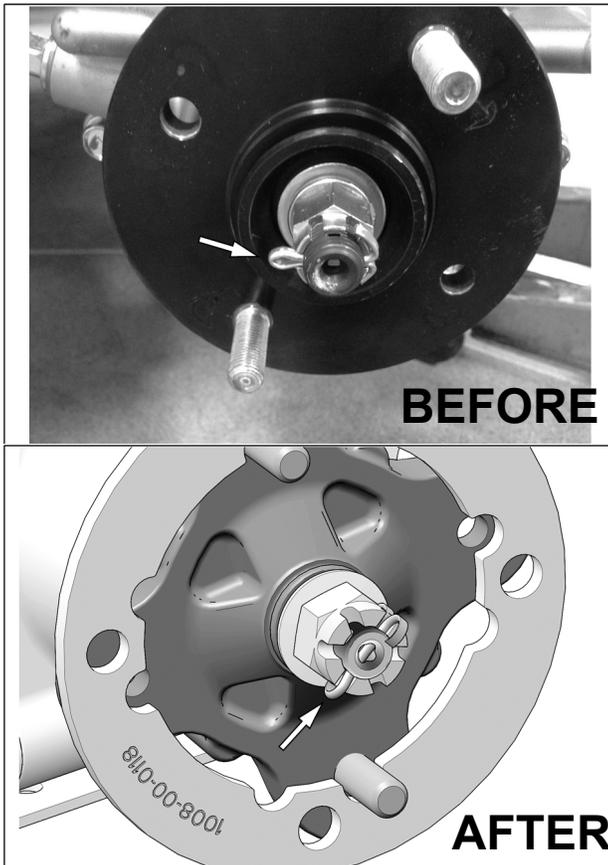

Fig. 22
8. Modify position of cotter pin to avoid interference with track system hub during installation. There must not be any resistance when track system is installed on vehicle's wheel hub. See Fig. 22